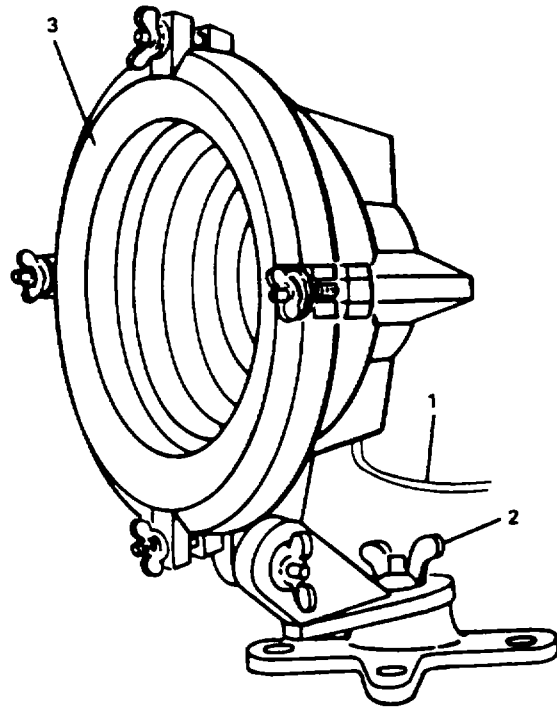

Figure 2-68. Replace Floodlight.
- a. Tag and disconnect electrical wiring (1, Figure 2-68) at power source.
- b. Remove wing nut (2). Remove floodlight (3) from mounting fixture.